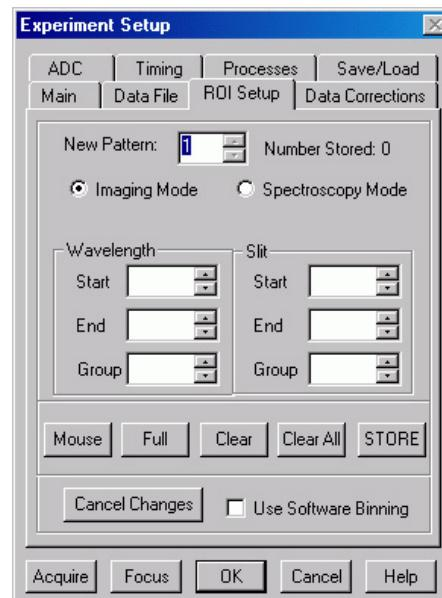

Figure 45. ROI tab page - imaging selected
6. On the **ROI** tab page (Figure 45), select Imaging Mode. WinSpec/32 operated in Imaging Mode always uses the full chip area and ROI considerations do not apply.